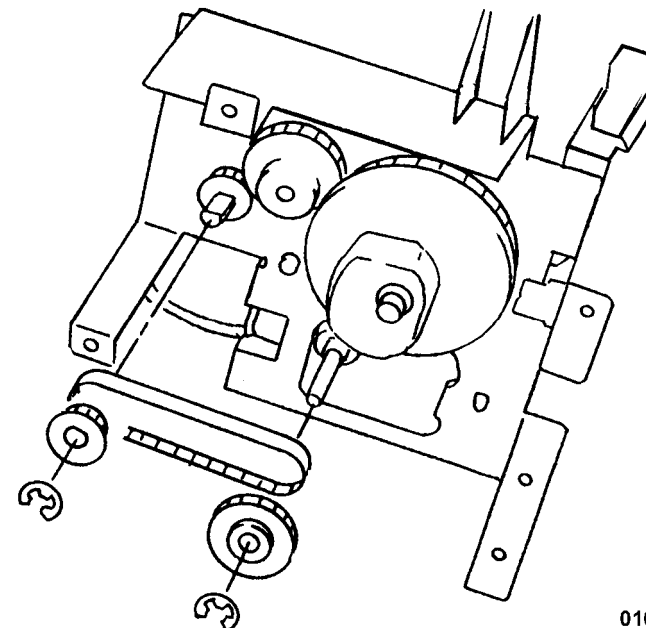

Figure 4 Removing the Belt
5. Remove the Belt (Figure 4).